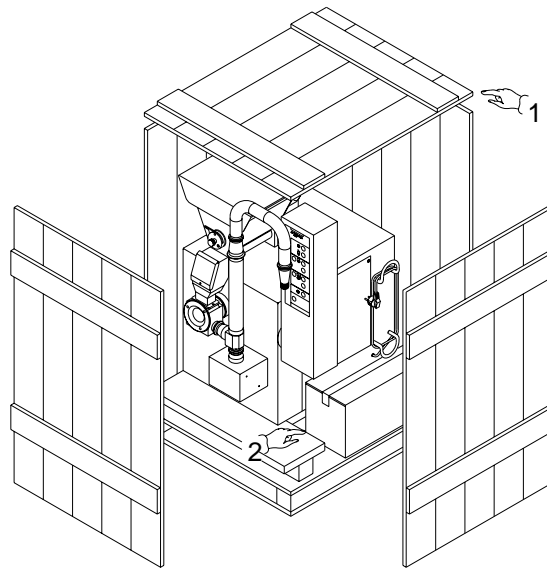

Fig. 4.1
- a. Unnail the upper lid (*Pos. 1 Fig. 4.1*) and remove it. Do the same with the side panels. Pay particular attention to the wooden spacer blocks located between the sides of the crate.
- b. Remove the spare parts box (*Pos. 2 Fig. 4.1*) and the other components.